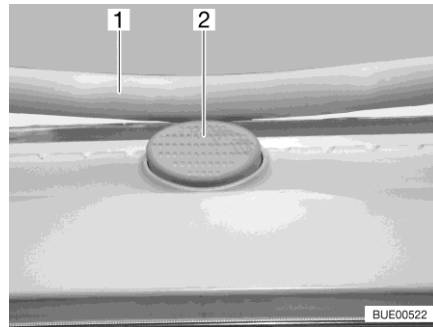

Fig. 114 Safety knob (Heki skylight)
- Press the safety knob (Fig. 114,2) and pull the bar (Fig. 114,1) down with both hands.
- Push the bar upwards with both hands until it is above the safety knob (Fig. 114,2).